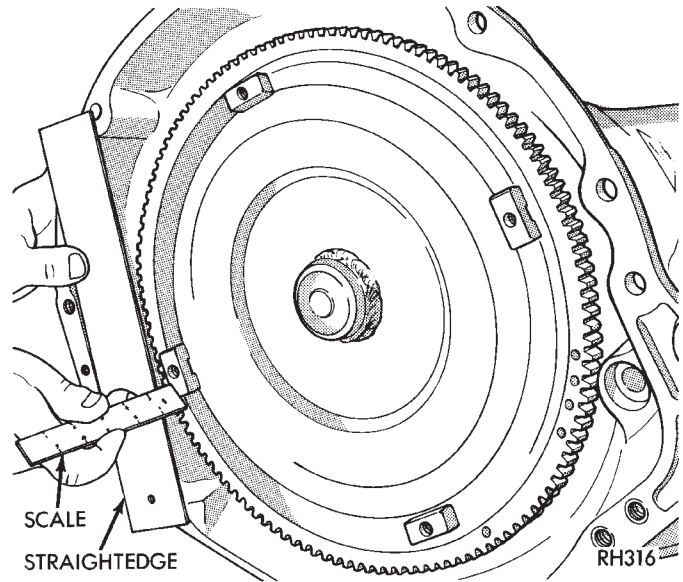

Fig. 18 Checking Torque Converter Seating
- (3) Align torque converter to oil pump seal opening.
- (4) Insert torque converter hub into oil pump.
- (5) While pushing torque converter inward, rotate converter until converter is fully seated in the oil pump gears.
- (6) Check converter seating with a scale and straightedge (Fig. 18). Surface of converter lugs should be 1/2 in. to rear of straightedge when converter is fully seated.
- (7) If necessary, temporarily secure converter with C-clamp attached to the converter housing.
- (8) Install the transmission in the vehicle.
- (9) Fill the transmission with the recommended fluid.